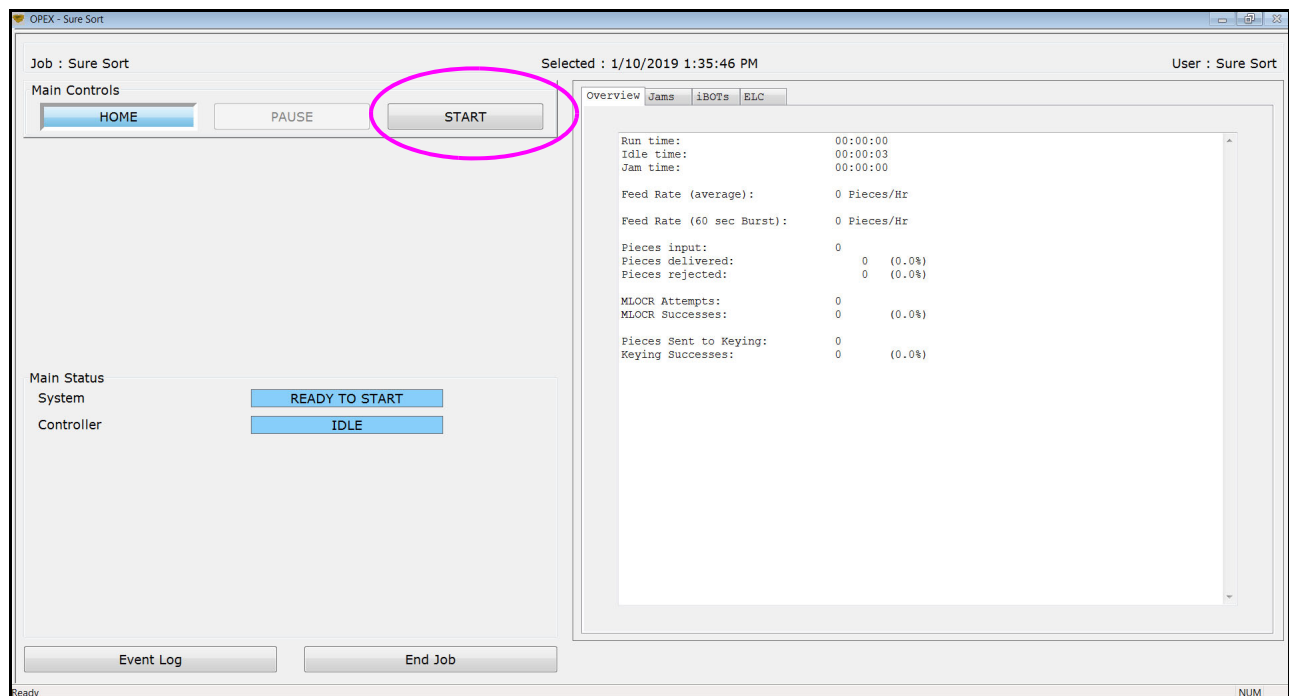

Figure 4-25: OPEX Host Run Screen
1. On the OPEX Host Run screen, click **START** (see Figure 4-25). At this point, the conveyors will start to run, and the iBOTs will cycle, so that they maintain their charge in preparation for delivering items to bins.